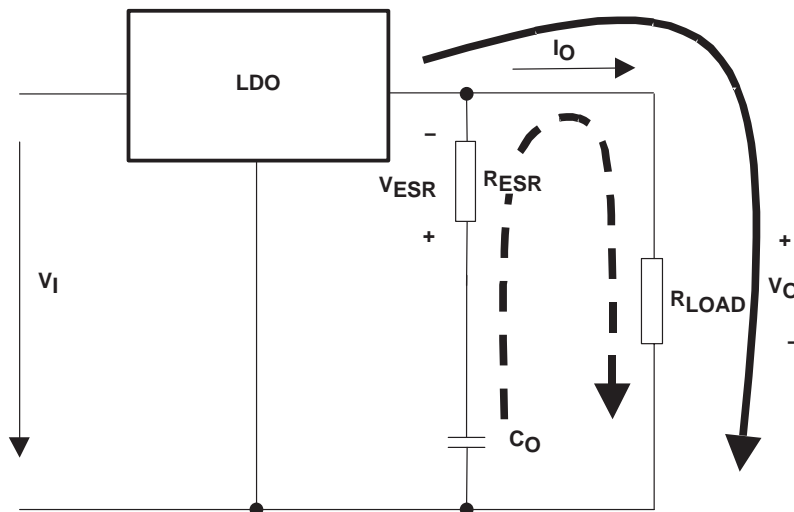
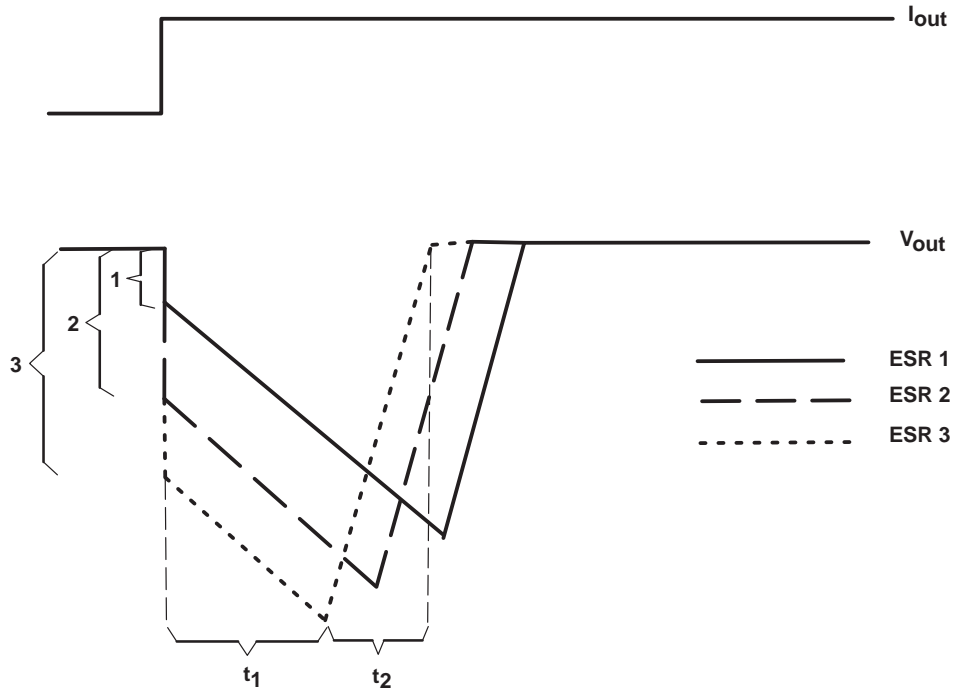

Figure 22. LDO Output Stage With Parasitic Resistances ESR and ESL
Figure 23. Correlation of Different ESRs and Their Influence to the Regulation of V_{out} at a Load Step From Low-to-High Output Current
Figure 22 shows the output capacitor and its parasitic impedances in a typical LDO output stage.
- The LDO is not able to supply the sudden current need due to its response time (t_1 in Figure 23). Therefore, capacitor C_{out} provides the current for the new load condition (dashed arrow). C_{out} now acts like a battery with an internal resistance, ESR. Depending on the current demand at the output, a voltage drop will occur at R_{ESR} . This voltage is shown as V_{ESR} in Figure 22.
- When C_{out} is conducting current to the load, initial voltage at the load will be $V_{out} = V_{C_{out}} - V_{ESR}$. Due to the discharge of C_{out} , the output voltage V_{out} drops continuously until the response time t_1 of the LDO is reached and the LDO resumes supplying the load. From this point, the output voltage starts rising again until it reaches the regulated voltage. This period is shown as t_2 in Figure 23.